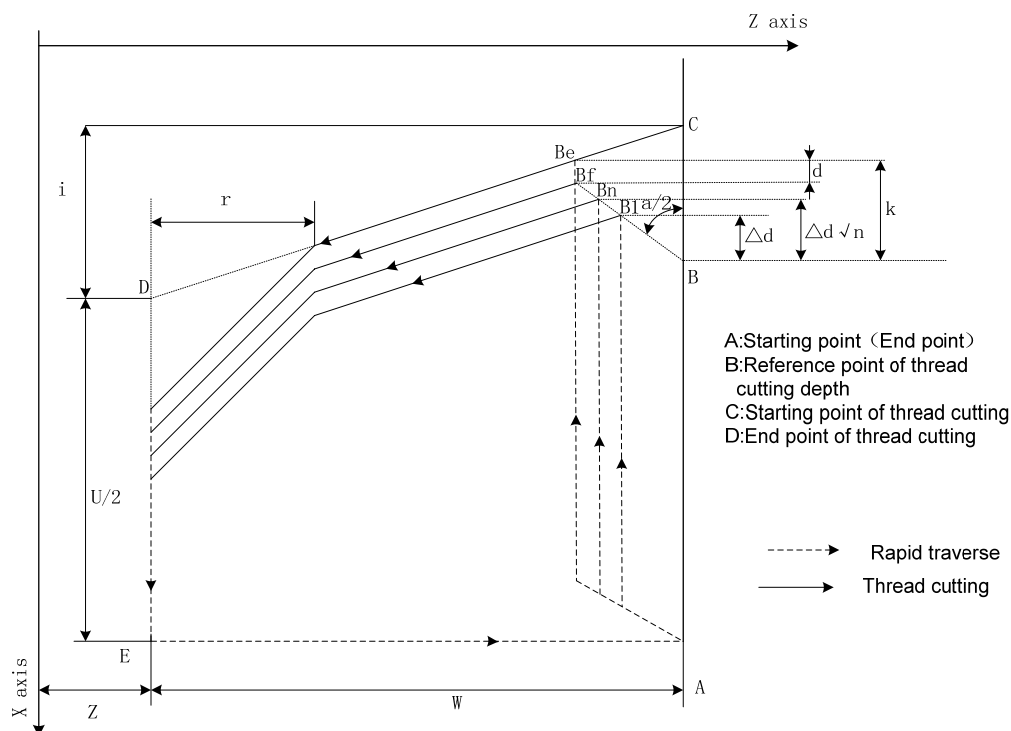

Fig. 3-94
**Command function:** Machining thread with specified depth of thread (total cutting depth) is completed by multiple roughing and finishing, if the defined angle of thread is not 0°, thread run-in path of roughing is from its top to bottom, and angle of neighboring thread teeth is the defined angle of thread. G76 can be used for machining the straight and taper thread with thread run-out path, which is contributed to thread cutting with single tool edge to reduce the wear of tool and to improve the precision of machining thread. But G76 cannot be used for machining the face thread. Machining path is shown in Fig. 3-94: